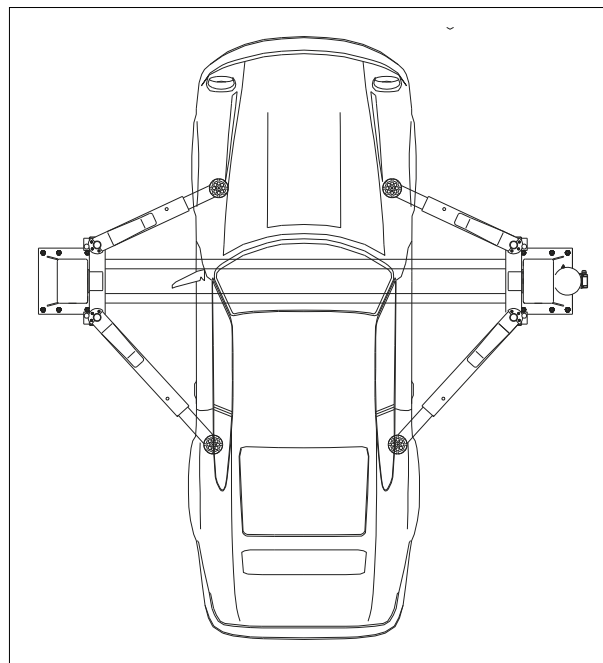

Fig. 12 Correctly Loaded Vehicle
It is important to position the vehicle on the lift so that the weight is correctly distributed on the arms. (Fig. 12) For person and equipment safety, it is important that:
- ◆ The vehicle is correctly positioned. (Fig. 12)